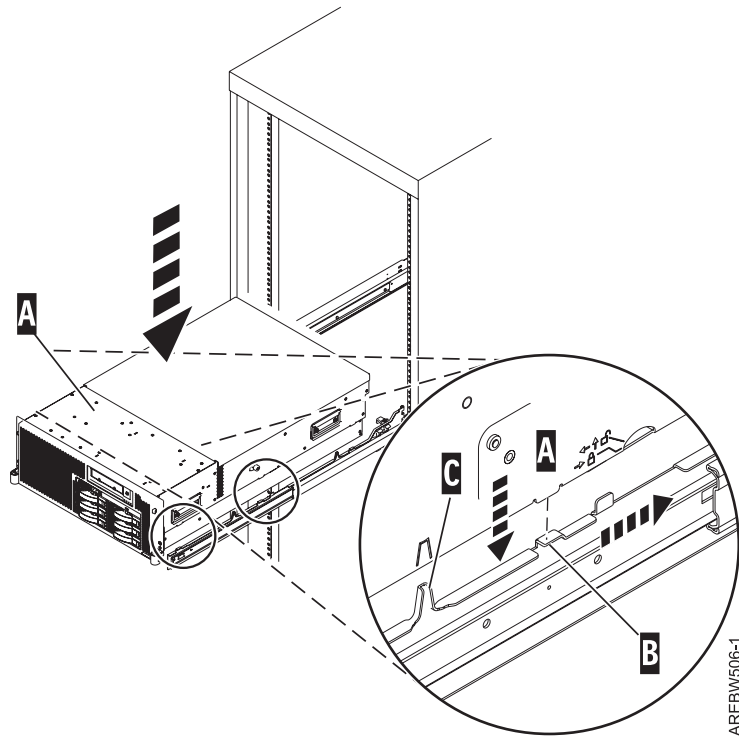

Figure 5. Place system onto the rails
- Extend the inner rails by pulling out the rails. They must be extended from the frame like the rails shown in Figure 5 on page 8.
8. Using three people, grasp the two handles located on each side of the system drawer, and place the system onto the inner rail. Align each tab **A** with slot **B** as indicated by the vertical dashed line shown in Figure 5 on page 8. Slide the system back a centimeter to complete the placement.